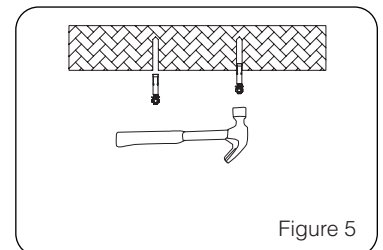

Figure 5
Step2. Drive the expansion screws into the holes through a hammer. (Figure 5)